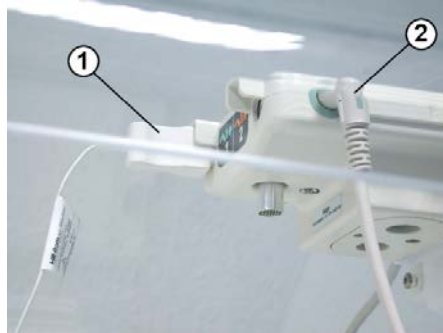

Fig. 23 Sensor module: Connectors for skin temperature sensor (1) and scale (2)
- 22** Plug the connector(s) (Fig. 23/1) of any skin temperature probes (option) into the sensor module jack.
- 23** Plug the connector (Fig. 23/2) of the weighing scale (if present) into the sensor module jack.